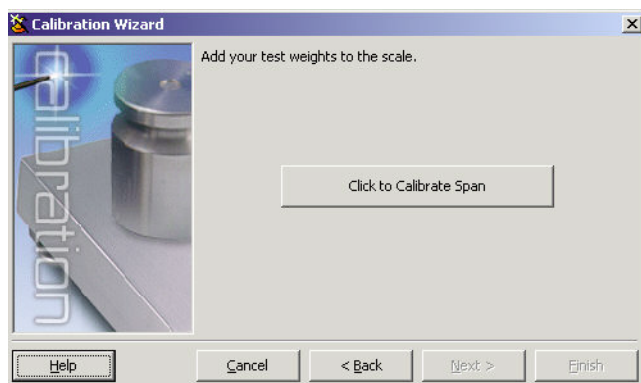

Figure 4-7. iRev 4 Span Calibration Display
5. Apply the test weights to the scale. Press the *Calibrate Span* button to perform the span calibration (see Figure 4-7). A message box appears when the process is complete.